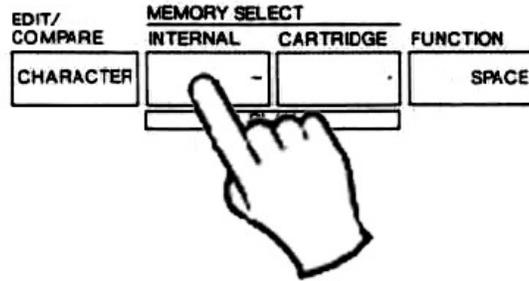

FIGURE 12
- (1) Set the MIDI SYSTEM INFORMATION FUNCTION to the "ON" condition.
- (2) Press the INTERNAL MEMORY SELECT SWITCH as shown in **FIGURE 12**.